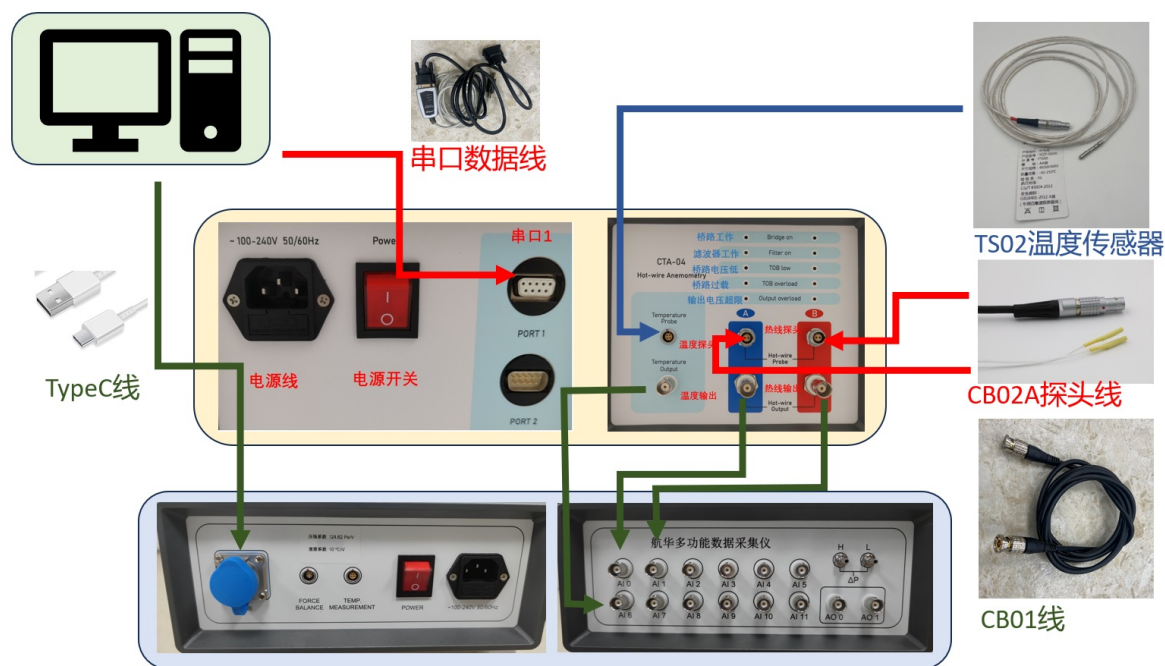

Figure 6: Connection method between the main unit, data acquisition unit, and computer
Step 2: Use the serial cable (Figure 2d) to connect the computer's USB port to the main unit's rear panel serial port PORT1, as shown in Figure 6.